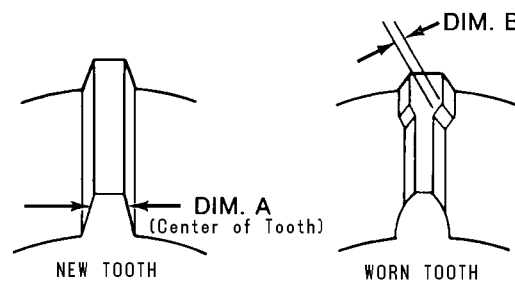

FIGURE 15-9. GEAR TOOTH WEAR LIMITS
3. Check gear teeth for excessive wear (Figure 15-9). Also inspect teeth for spalling, fretting, surface flaking, splitting, rubbing, and corrosion. Nicks and dents that cannot be felt with a .020 in. (.50 mm) radius scribe are acceptable for re-use.